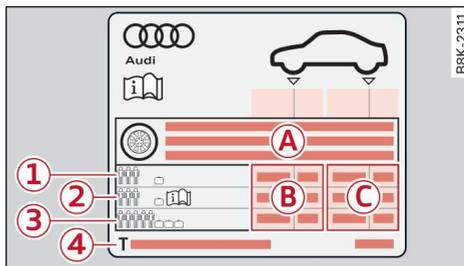

Fig. 146 B-pillar on driver's side: tyre pressure sticker
The correct inflation pressures for tyres fitted at the factory and for the spare wheel* are specified on a sticker. The sticker ⇒ *Fig. 146* is on the B-pillar (driver's side).
- ▶ Refer to the sticker ⇒ *Fig. 146* for the correct tyre pressures.
Each time you change a tyre, change the wheels round or change the tyre pressures on your vehicle (e.g. when switching from partial load to full load and vice-versa), you must store the new tyre pressures ⇒ *page 226*. Monitoring of the tyre pressures is based on the tyre pressures you have stored. The inflation pressures recommended for your vehicle are given on the tyre pressure sticker ⇒ *page 222, Fig. 146*.